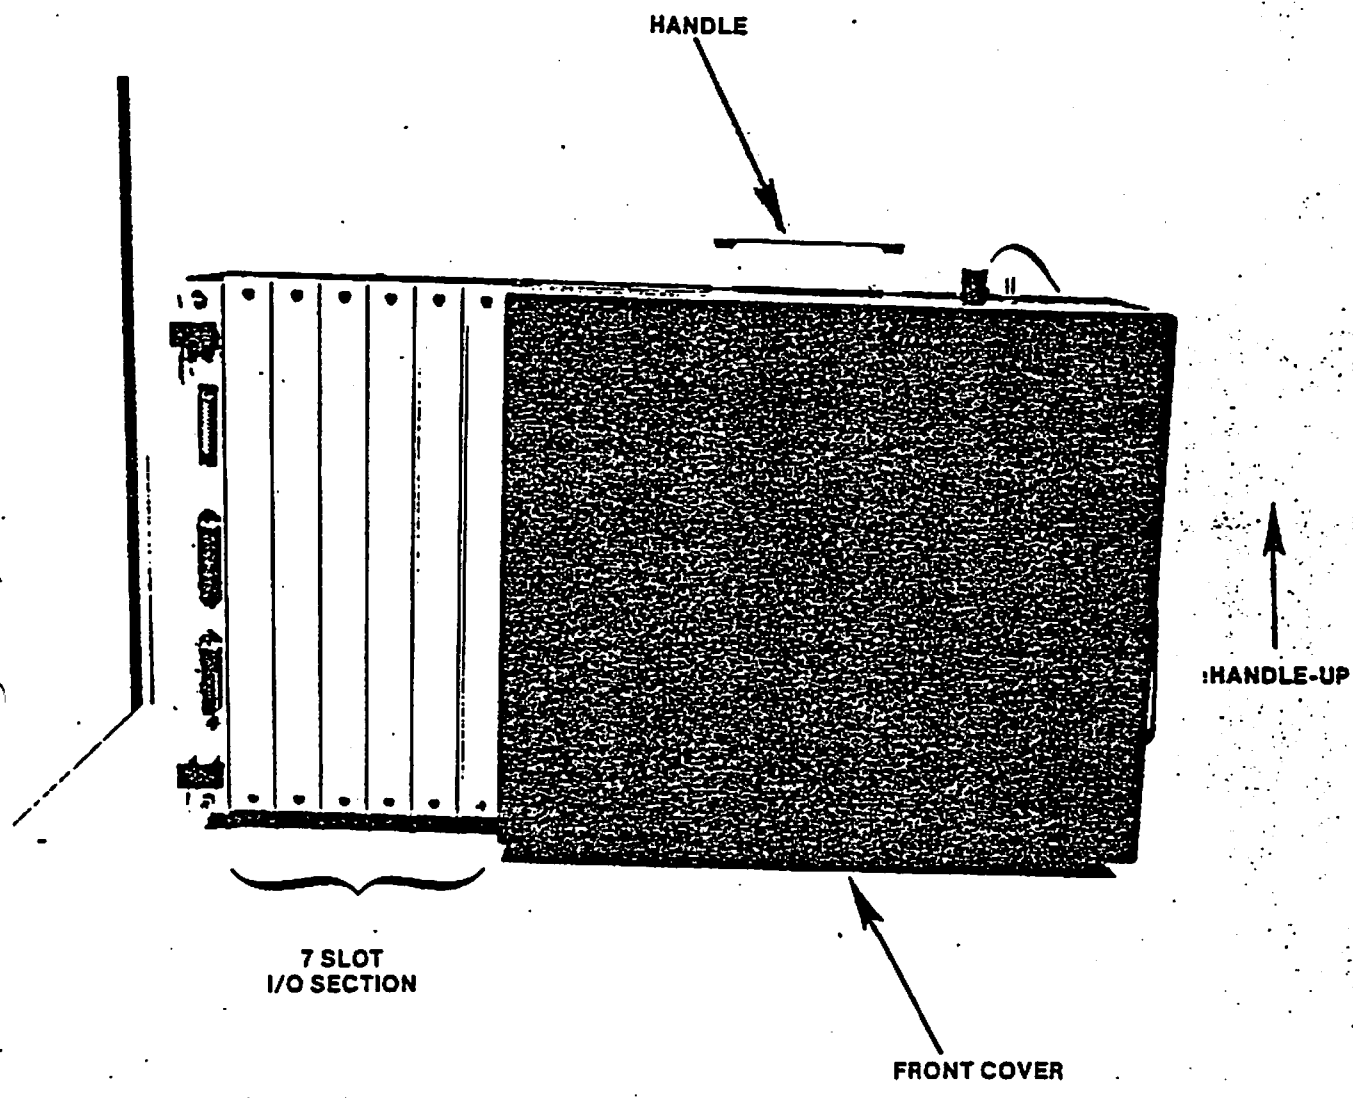

FIGURE 1 MVPC CPU (OPERATING POSITION)
- a. Set the new MVPC chassis with the carrying handle facing up (operating position). Remove the front and rear covers. See figures 1 and 2.